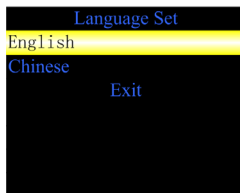

Figure 5.4 Language setting menu
- 2 The language setting menu is shown as Figure 5.4